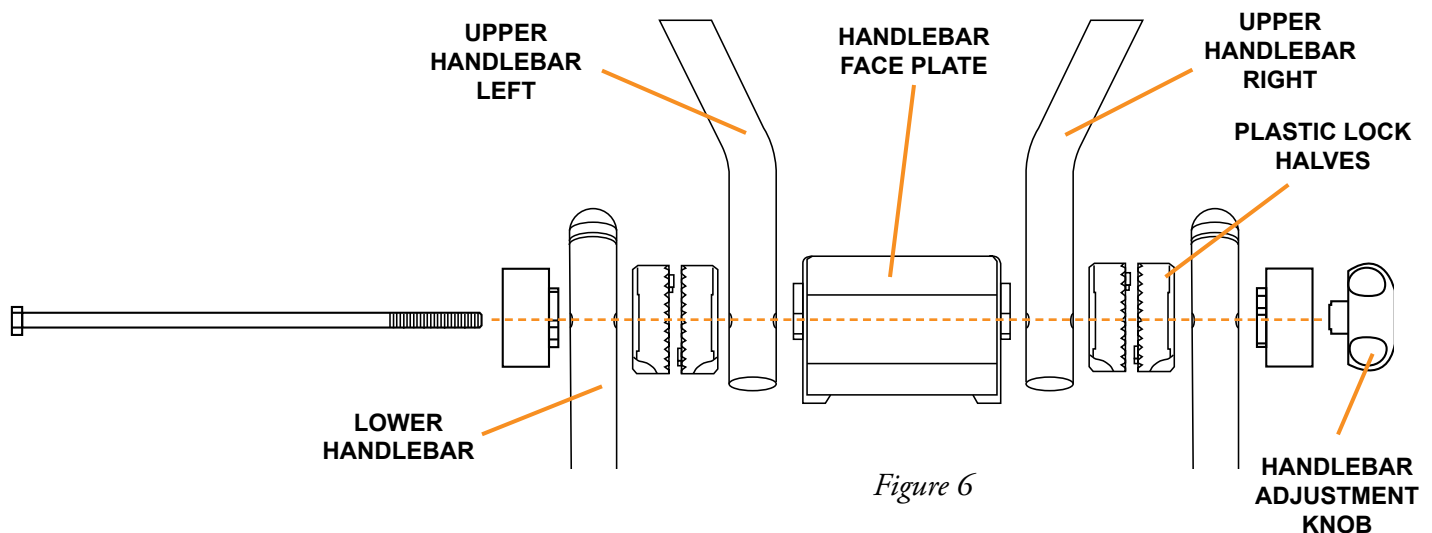

Figure 6
2. Position the handlebar components as shown in Figure 6.